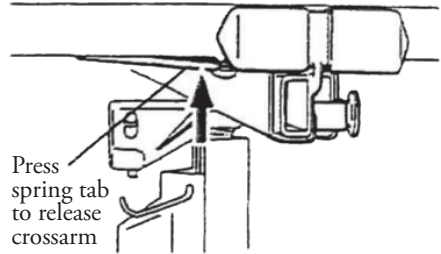

Fig. 22
- Remove the crossarms by pressing the spring tab on the bottom and sliding the crossarm out of the tapered socket. (Fig 22)